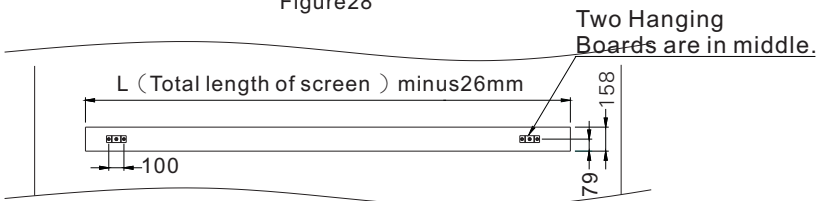

Figure29
- 2)Saw an oblong groove at a completed ceiling (note: please ensure the hanging bracket must be installed in the middle of this groove) (figure 29). The rest of steps can follow the instructions as before!